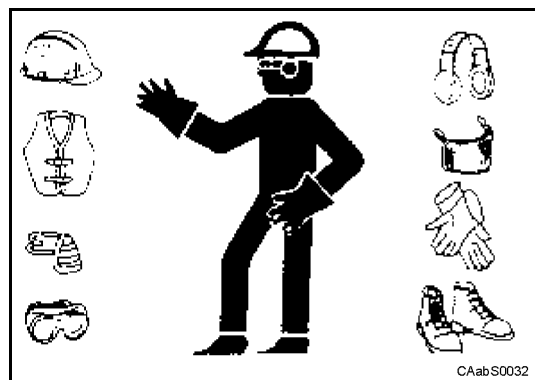

Fig. 7
- 5 Usare indumenti e protezioni adatte allo scopo come: tuta, guanti protettivi e cuffie (Fig. 7).
- 5 *Wear suitable clothing and protection such as overalls, gloves and ear safety devices (Fig. 7).*